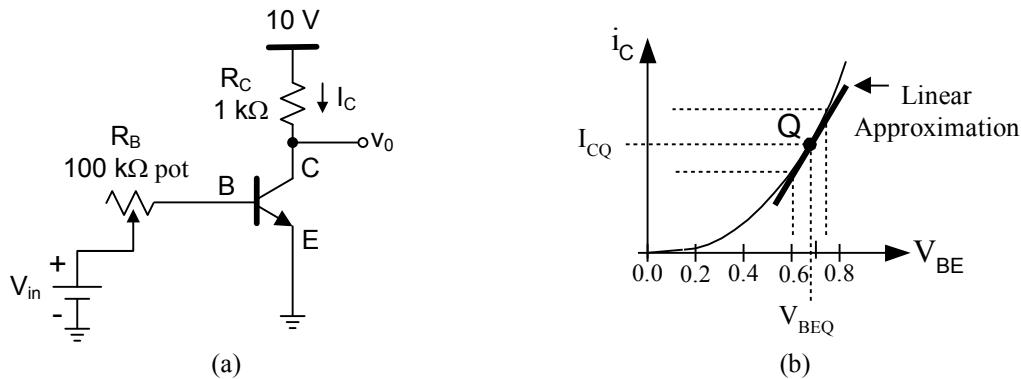

Fig. 2. (a) BJT transistor circuit 1 and (b) input characteristics for the BJT if  $V_{CE} > V_{CESAT}$
For base-emitter voltages below 0.5 V, the collector current is very small, typically less than 1  $\mu$ A. It will be evident in the next sections that the BJT is often operated with larger collector currents and base-emitter voltages; e.g.  $V_{BE} > 0.5$  V. When a base-emitter voltage is selected, the collector current is fixed; the operating (quiescent) point Q is therefore determined by  $V_{BEQ}$  and  $I_{CQ}$ . The derivative of this function evaluated at the operation point Q is defined as the small signal transconductance, computed from Fig. 2 as:
2. For the circuit in Fig. 2(a), compute the current  $I_B$  and  $I_C$ , and the voltage  $V_C$  for at least 5 input voltages within the range  $V_{BE(on)} < V_{in} < 1$  V, use  $R_B = 100$  k $\Omega$ .
3. For the circuit in Fig. 2(a), if the  $V_{BE}$  was set to 0.1 V, what would you expect for the value of  $V_C$ ?